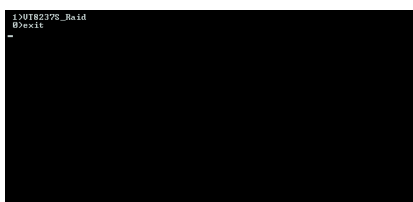
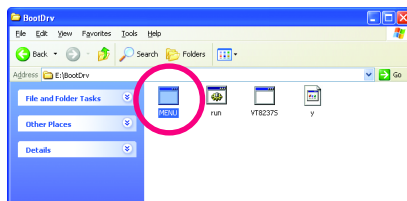

Figure 14
Figure 15
Step 2: When the controller menu (Figure 14) appears, remove the startup disk and insert the blank formatted disk. Select the controller driver by pressing the corresponding letter from the menu.
For example, from the menu in Figure 14, press **1** to select **VT8237S_Raid** for Windows operating system. Your system will then automatically zip and transfer this driver file to the floppy disk. Press **0** to exit when finished.
Use an alternative system and insert the GIGABYTE motherboard driver CD-ROM. From the CD-ROM drive folder, double click the **MENU.exe** file in the **BootDrv** folder (Figure 15). A command prompt window will open similar to that in Figure 14.